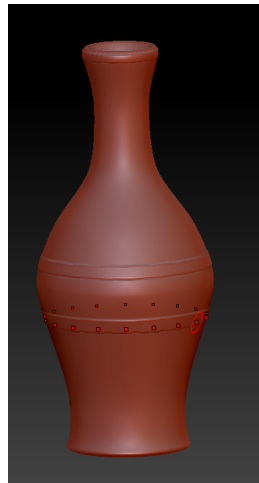

Figure 3-86 Pattern created on the other parts of the flower vase
7. Similarly, create the same pattern on the other parts of the *flower vase*, as shown in Figure 3-86.